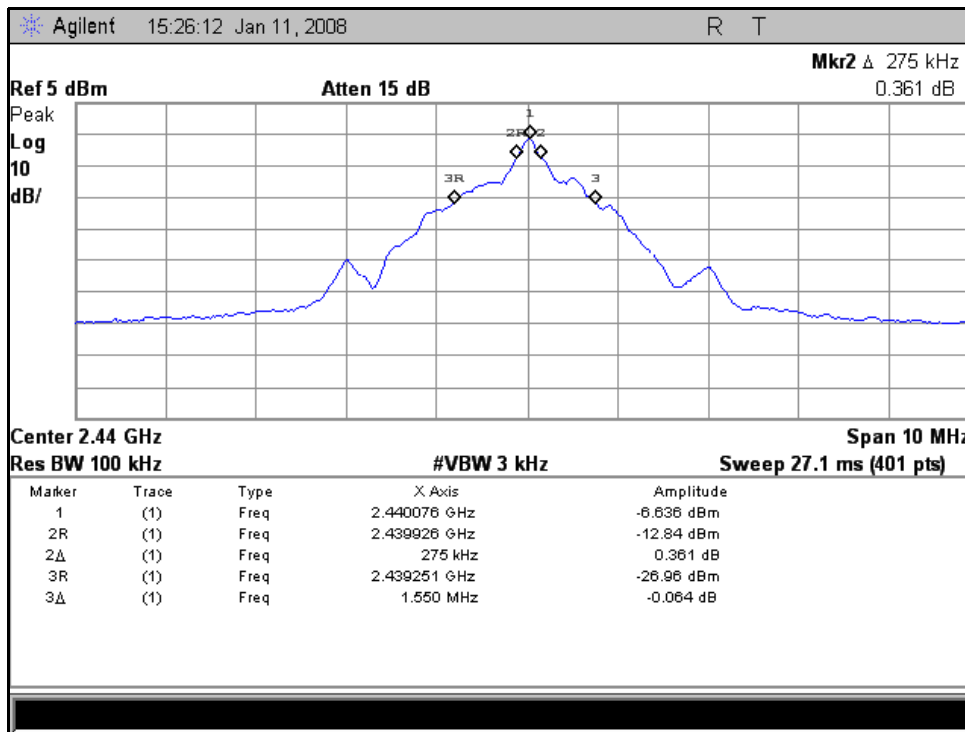

Figure 13. Modulated carrier bandwidth measurements
An example of the modulation bandwidth of a nRF device used in 2 Mbit/s mode is shown in Figure 13. Both 6 dB and 20 dB bandwidths (BW) are commonly used to specify the width of this TX spectrum. The 6 dB bandwidth is, as indicated in Figure 13, the frequency offset between a point (marker 2 and 2R) on each side of the spectrum that is 6 dB lower than the center of the spectrum indicated by the peak output power (marker 1). The 20 dB bandwidth is similarly the offset (marker 3 and 3R) between two points on each side of the spectrum, 20 dB below the peak output power.
A TX bandwidth specification does not mean that there is no power emitted outside this bandwidth. As can be seen in Figure 13, the power in the TX spectrum rolls off outside the 20 dB bandwidth. This is a fact in all radio devices and the rate of the drop is mainly decided by the modulation type used in the RF device.
The modulation bandwidth is found by adding the frequency markers as described in Figure 13. Some spectrum analyzers can do this measurement automatically, to check if your spectrum analyzer can do this refer to its manual.